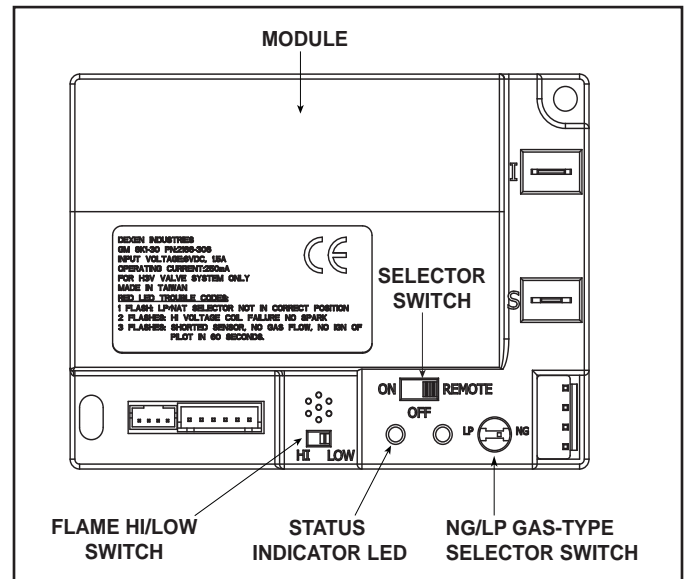

Figure 12.3 Control Module
1. The control module has an ON/OFF/REMOTE selector switch that must be set. See Figure 12.3.
2. If using a wired wall switch with the module in REMOTE mode, the flame output can be adjusted with the HI/LO selector switch on the module. See Figure 12.3. Note that the flame HI/LO selector switch will become inactive once an optional remote control (RC300CE) is programmed to the control module. Note that the control module will always ignite the fireplace on HI and remain so for the initial 10 seconds of operation. If the HI/LO is switched to the LO position, the flame output will automatically drop to the lowest setting after the flame has been established for 10 sec. After this 10 second period, the flame can be adjusted from HI to LO with the switch.